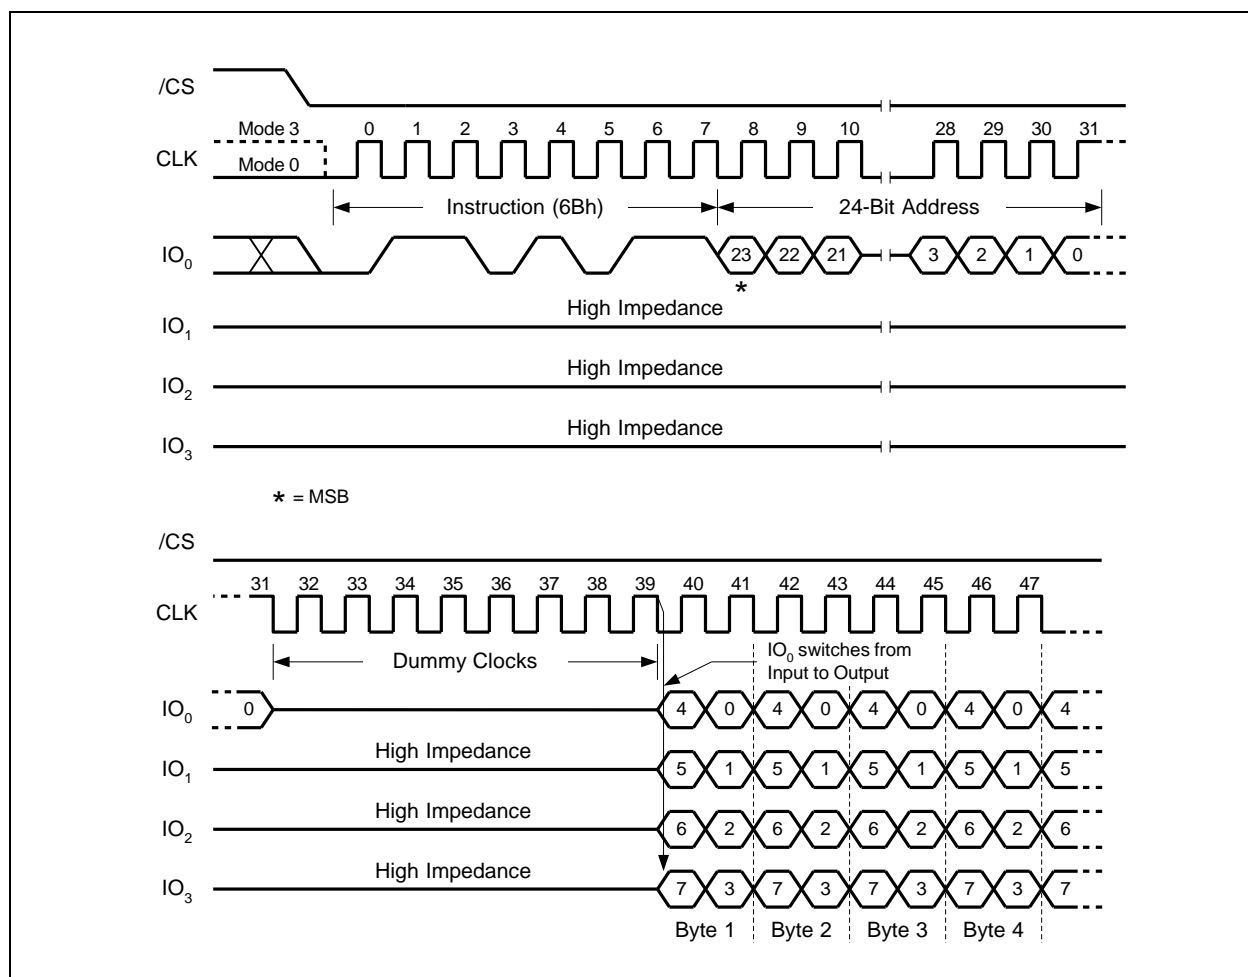

Figure 20. Fast Read Quad Output Instruction
- B.2.9 The Fast Read Quad Output instruction can operate at the highest possible frequency of FR (see AC Electrical Characteristics). This is accomplished by adding eight “dummy” clocks after the 24-bit address as shown in Figure 20. The dummy clocks allow the device’s internal circuits additional time for setting up the initial address. The input data during the dummy clocks is “don’t care”. However, the IO pins should be high-impedance prior to the falling edge of the first data out clock. The input data during the dummy clocks is “don’t care”. However, the IO pins should be high-impedance prior to the falling edge of the first data out clock.